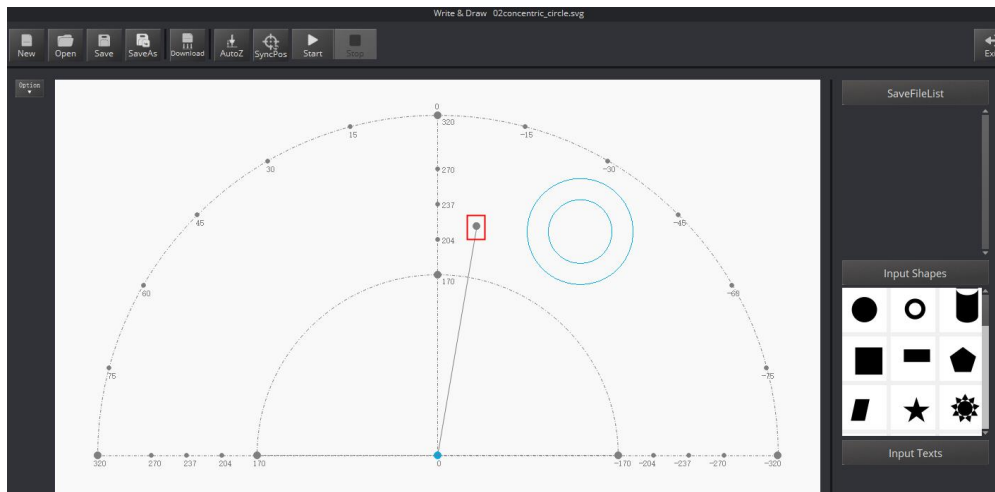

Figure 5.70 The point corresponding to the end-effector of the robotic arm
- The point marked by a red box, as shown in Figure 5.70, corresponds to the position of the end-effector of the Dobot Magician. This point changes its position only within the annular area when the robotic arm moves.